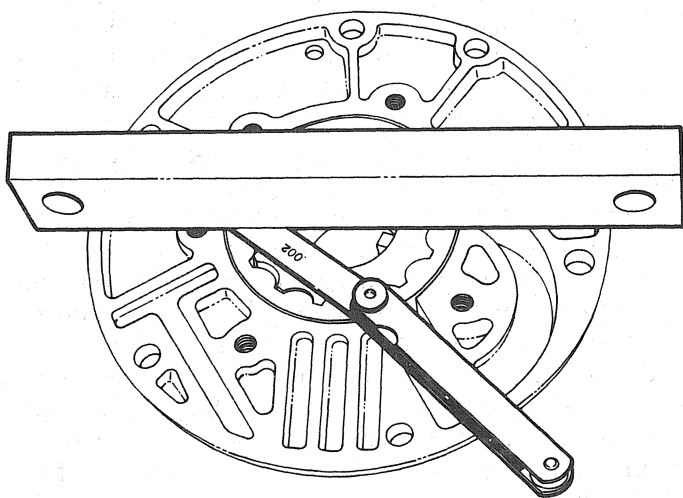

Fig. 2C-52 Measuring Pump Rotor End Clearance—Model 904/999
(3) Position replacement bushing on Installer Tool J-24049.
(4) Turn pump housing over and install bushing straight into housing until edge of bushing is flush with bore (fig. 2C-55).